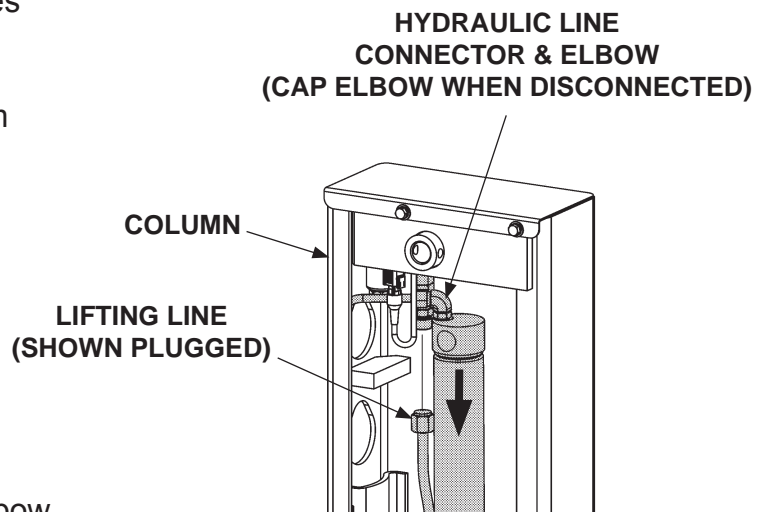

FIG. 31-2
17. Lower cylinder slowly a few inches to gain access to hydraulic line connector (**FIG. 31-2**). Plug the lifting line to prevent cylinder from compressing.
18. Disconnect hydraulic line from elbow on top of cylinder (**FIG. 31-2**). Then cap the elbow.